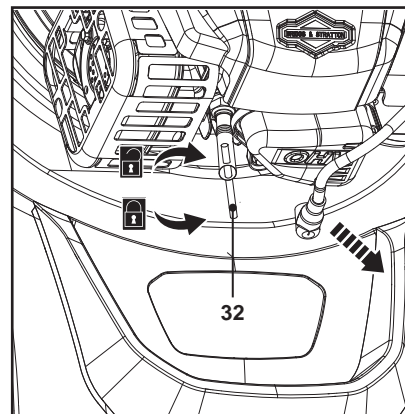

Fig. 28
2. Loosen the spark plug anti-clockwise using the spark plug wrench (32) and remove it carefully (Fig. 28).